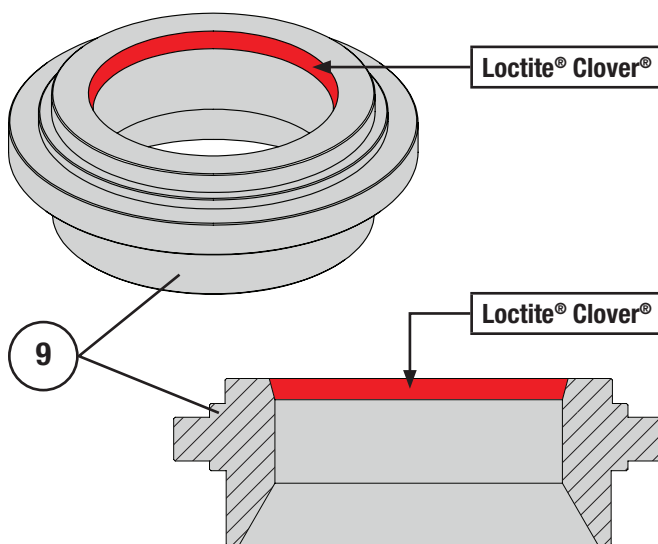

Figure 12 Lapping Compound Application Area
- 4 Apply fine grit Clover® compound to the seating surface of the seat ring (Key 9) as shown in Figure 12. Install the valve plug / stem assembly (Keys 3, 4, 5) into the valve. Mark the position of the plug / stem assembly using the marker. **NOTE:** Be very careful when applying the lapping compound, lapping compound can easily damage parts.